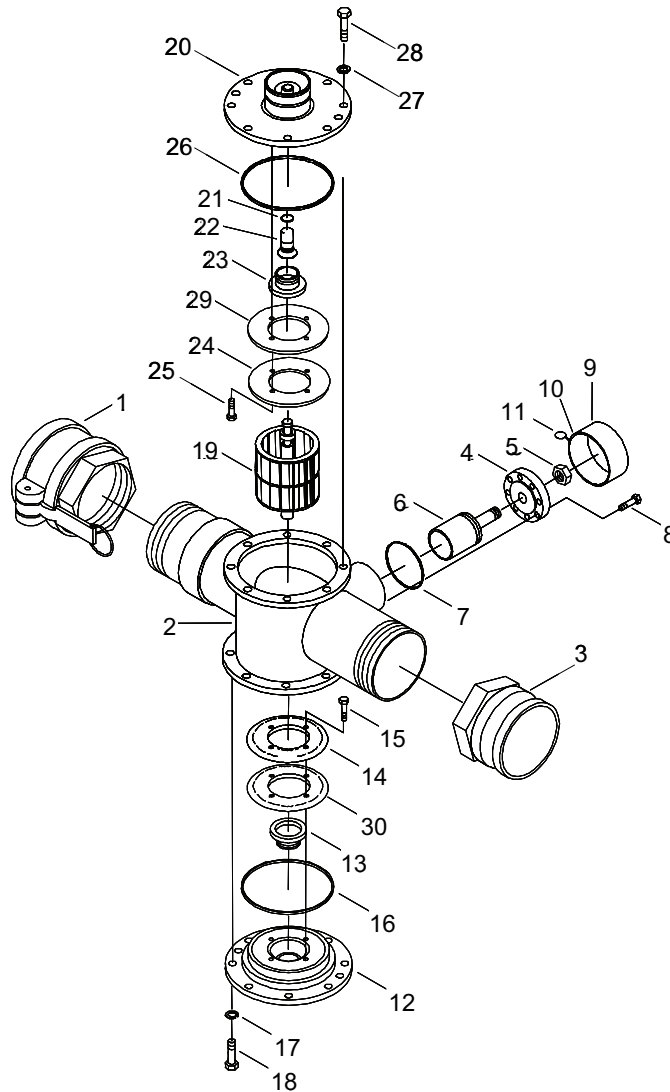

Figure 4. 6 In. In-line Flowmeter Assembly.
1. Apply sealing compound to threads of female cam and groove coupling (Figure 4, Item 1) and flowmeter (Figure, 4, Item 2).
2. Using pipe wrench, install female cam and groove coupling (Figure 4, Item 1) on flowmeter (Figure 4, Item 2). Tighten female cam and groove coupling (Figure 4, Item 1).
3. Apply sealing compound to threads of male cam and groove coupling (Figure 4, Item 3) and flow meter (Figure 4, Item 2).
4. Using pipe wrench, install male cam and groove coupling (Figure 4, Item 3) on flowmeter (Figure 4, Item 2). Tighten male cam and groove coupling (Figure 4, Item 3).
1. Install base plate (Figure 4, Item 4) and nut (Figure 4, Item 5) on calibration plug (Figure 4, Item 6). Tighten nut (Figure 4, Item 5).
2. Install calibration plug (Figure 4, Item 6) into flowmeter (Figure 4, Item 2).
- a. Apply a thin coat of petrolatum on new o-ring (Figure 4, Item 7) and install on calibration plug (Figure 4, Item 6).
- b. Position calibration plug (Figure 4, Item 6) on flowmeter (Figure 4, Item 2).
- c. Install eight bolts (Figure 4, Item 8) to secure calibration plug (Figure 4, Item 6) to flow meter (Figure 4, Item 2).
- d. Using torque wrench and adapter, torque eight bolts (Figure 4, Item 8) using standard torque table (WP 0159).
- e. Position calibration plug cover (Figure 4, Item 9) on calibration plug (Figure 4, Item 6).
- f. Using wire twister pliers, install new wire (Figure 4, Item 10) and new lead seal (Figure 4, Item 11) to secure calibration plug cover (Figure 4, Item 9) to flowmeter (Figure 4, Item 2).
1. Assemble rear cover (Figure 4, Item 12).
- a. Install bearing insert (Figure 4, Item 13) into rear cover (Figure 4, Item 12).
- b. Position throttle plate (Figure 4, Item 14) and spacer plates (Figure 4, Items 30) on rear cover (Figure 4, Item 12).
- c. Install four screws (Figure 4, Item 15) to secure throttle plate (Figure 4, Item 14) to rear cover (Figure 4, Item 12). Tighten screws (Figure 4, Item 15).
2. Install rear cover (Figure 4, Item 12) onto flowmeter (Figure 4, Item 2).
- a. Apply a thin coat of petrolatum on new o-ring (Figure 4, Item 16) and install on rear cover (Figure 4, Item 12).
- b. Position rear cover (Figure 4, Item 12) on flowmeter (Figure 4, Item 2).
- c. Install four new lock washers (Figure 4, Item 17) and four bolts (Figure 4, Item 18) to secure rear cover (Figure 4, Item 12) to flowmeter (Figure 4, Item 2).
- d. Using torque wrench and adapter, torque four bolts (Figure 4, Item 17) using standard torque table (WP 0159).
2. Align the rotor and shaft assembly (Figure 4, Item 19) in the flowmeter (Figure 4, Item 2) housing.
3. While pushing inward on the rotor and shaft assembly (Figure 4, Item 19), install the rotor and shaft assembly (Figure 4, Item 19) into flowmeter (Figure 4, Item 2).
- a. Apply a thin coat of petrolatum on new o-ring (Figure 4, Item 21) and install o-ring (Figure 4, Item 21) on flow meter diaphragm (Figure 4, Item 22).
- b. Position flow meter diaphragm (Figure 4, Item 22) on top cover (Figure 4, Item 20).
- c. Install bearing insert (Figure 4, Item 23) into top cover (Figure 4, Item 20).
- d. Position throttle plate (Figure 4, Item 24) and spacer plates (Figure 4, Item 29) on top cover (Figure 4, Item 20).
- e. Install four screws (Figure 4, Item 25) to secure throttle plate (Figure 4, Item 24) to top cover (Figure 4, Item 20). Tighten screws (Figure 4, Item 25).
2. Install top cover (Figure 4, Item 20) onto flowmeter (Figure 4, Item 2).
- a. Apply a thin coat of petrolatum on new o-ring (Figure 4, Item 26) and install new o-ring on top cover (Figure 4, Item 20).